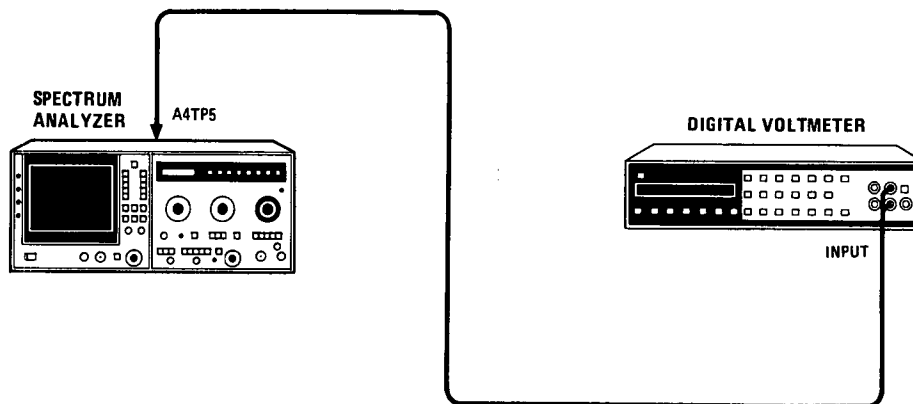

Figure 5-5. Z Axis Adjustment Test Setup
19. Connect voltmeter to A4TP5 CONT GATE (Figure 5-5). Gradually increase INTEN control to fully clockwise position. Voltage should not exceed +70V. Adjust A4R4 INTEN GAIN for a voltmeter reading of +70.0 \pm 0.2V.